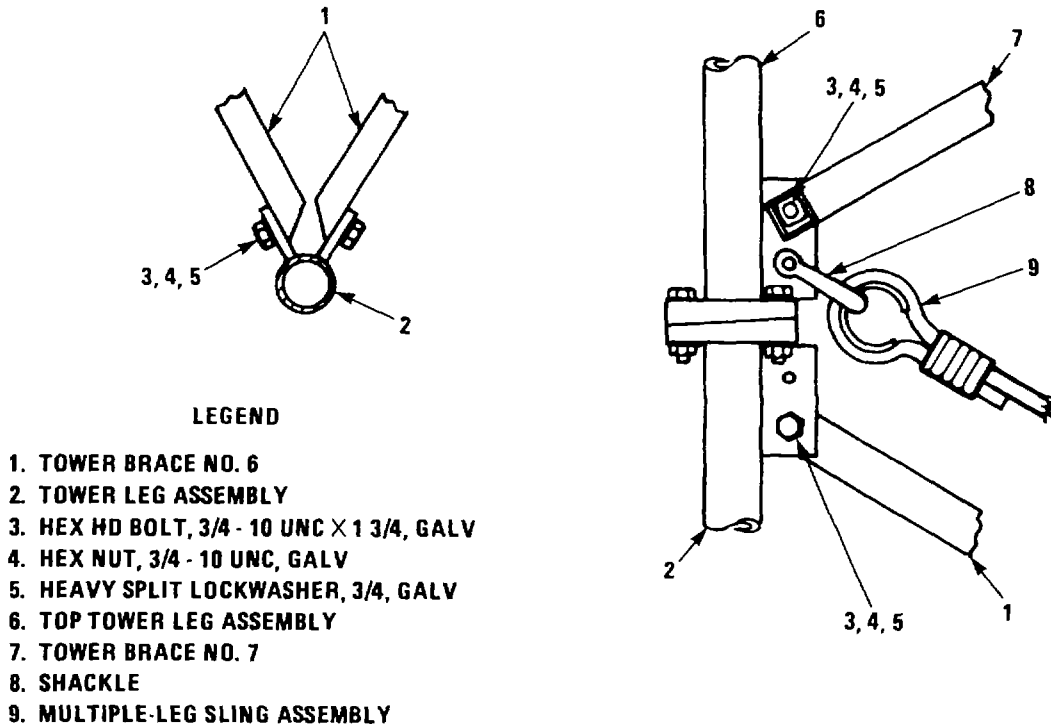

Figure 2-8. Brace Attachment and Multiple-Leg Sling Assembly Connection
- (1) Assemble tower section No. 3 by the same procedure as for tower section No. 1 (paragraph 2-12a, steps (4) through (6)), except attach tower braces No. 5 instead of No. 1 and tower braces No. 6 instead of No. 2.
2. Make sure that braces No. 6 are attached to leg assemblies in the manner shown in figure 2-8.